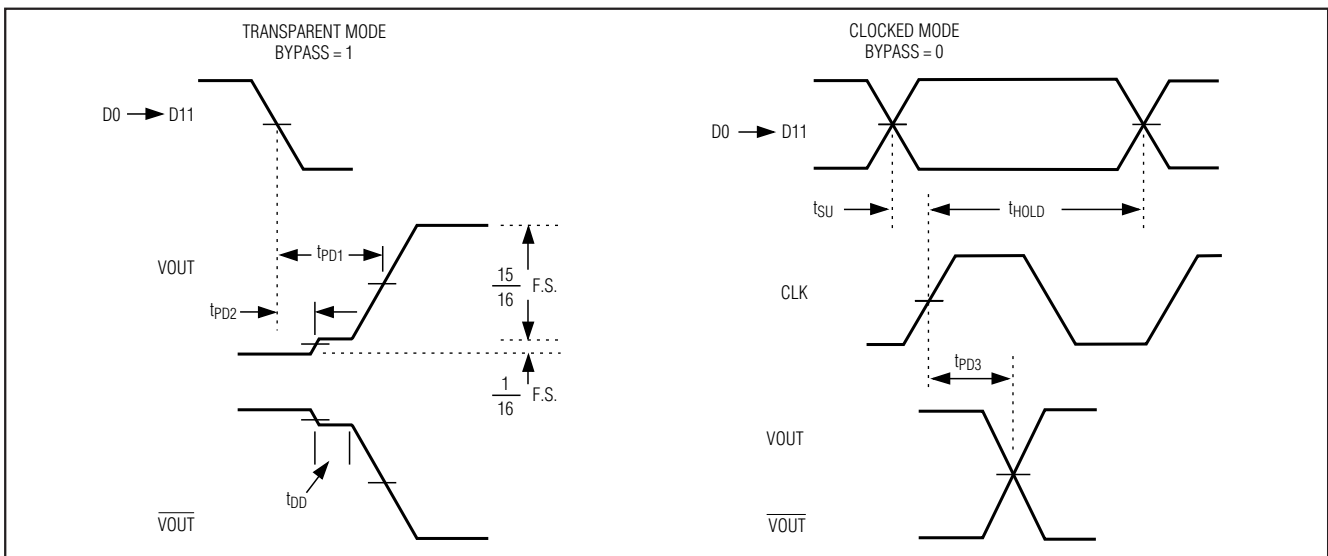

Figure 2. Timing Diagram
**Note 7:** Timing definitions are detailed in Figure 2.
Figure 2's timing diagram illustrates the importance of operating the MAX555 in clocked mode. In transparent mode (BYPASS = 1), both the master and slave registers are transparent, and changes in input data ripple directly to the output. Because the four MSBs are decoded into 15 identical currents, there is a decode delay for these bits that is longer than for the eight LSBs. For the full-scale transition case shown, an intermediate output of 1/16 full-scale occurs until the four MSBs are properly decoded. This decode delay seriously degrades the device's spurious performance. In addition, skew in the timing of the input data also directly appears at the DAC output, further degrading high-speed performance.